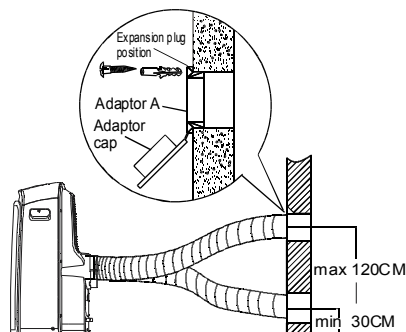

Fig. 18
1. Prepare a hole in the wall. Install the wall Exhaust adaptor A onto the wall (outside) by using 4 expansion plugs and wooden screws, be sure to fix thoroughly. (See Fig. 18)